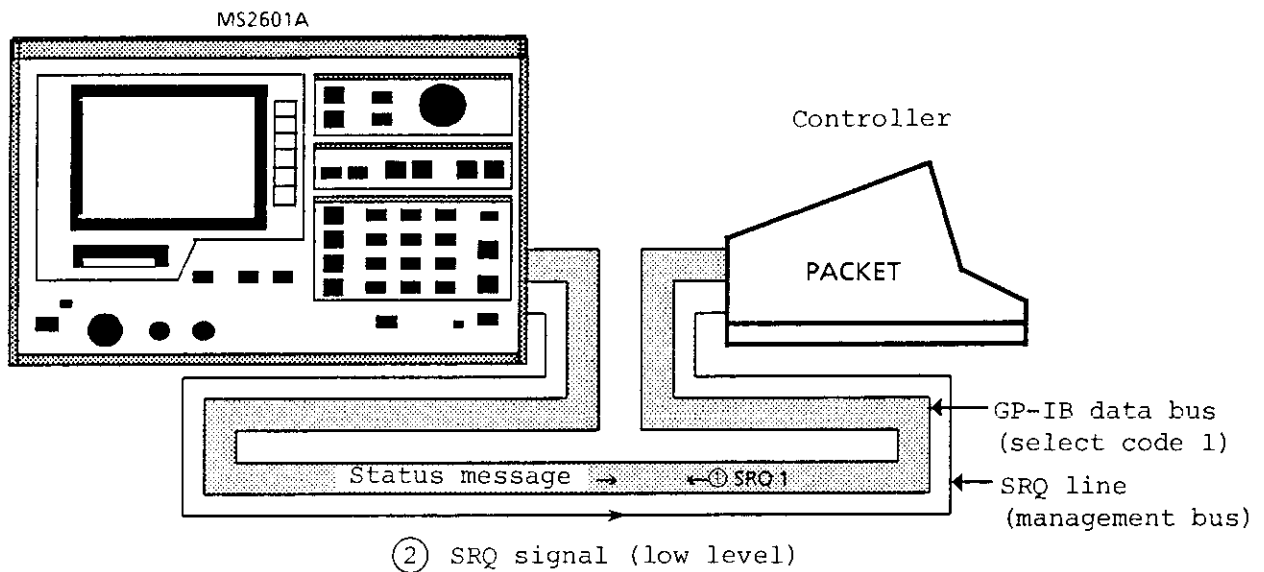

Fig. 12-3 Sending Status Messages
- ①: The controller executes WRITE @101:"SRQ 1" to turn on the MS2601A SRQ function. (←①SRQ 1 in Fig. 12-3)
- ②: When the MS2601A receives SRQΔ1, SRQ is issued to the controller with bit 6 set to 1 (low) at sweep termination or error (Table 12-1). In other words, a service request is issued if the following conditions occur. (② SRQ signal (low level) in Fig. 12-3)